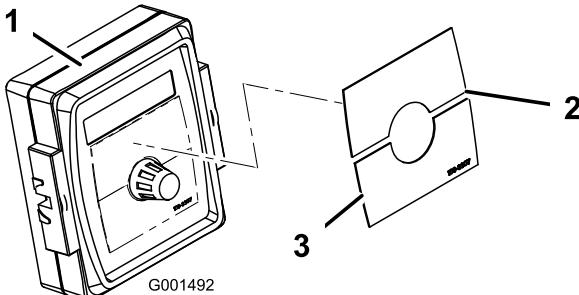

Figure 25
- Install the Spray Pro Decal to the monitor (Figure 25).